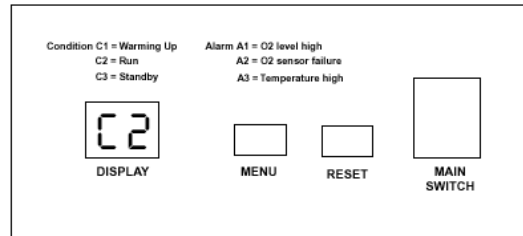

Figure 6. Control Panel Run Mode
3. After the warm-up period, the display will show C2 (figure 6) and the compressor will start to run.